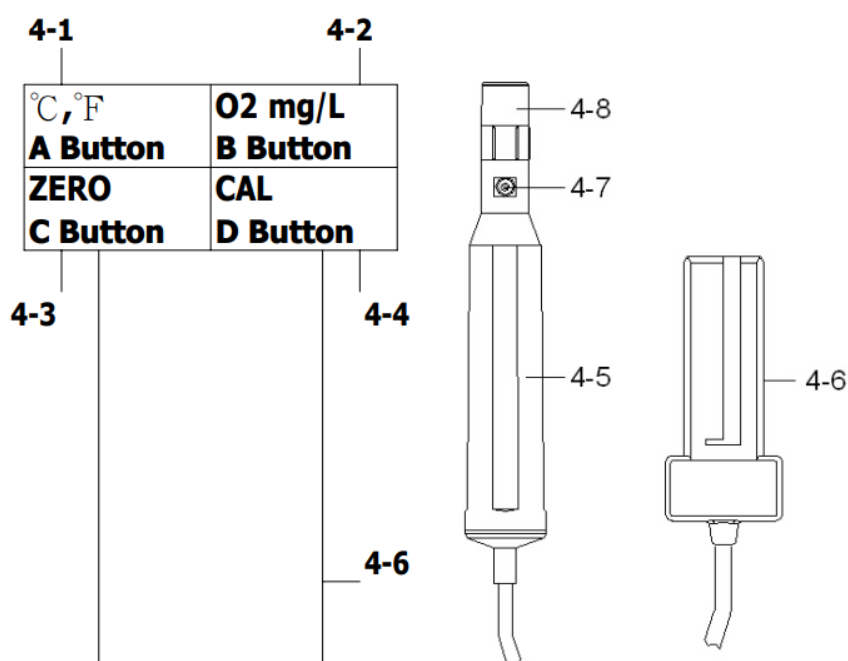

Fig. 1
1. Connect the " OXYGEN PROBE plug " (4-6, Fig. 1) into the meter (YK-2001PH).
3. Push the " O2 mg/L Button (B Button) " (4-2, Fig. 1) to select the " % O2 " function, the display will show the symbol of " % O2 "
4. Push the " Zero Button (C Button) " (4-3, Fig. 1) once, the LCD will show zero value then display the " Air Oxygen " value.
* Push the " CAL Button (D Button) " (4-4, Fig. 1) then the display will show the values exact same as 20.9 or 20.8. (As the oxygen in air is 20.9 % typically, so use this data for quick & precise calibration).
1. After the meter be calibrated (above procedure 5-1), now the meter is ready for Dissolved Oxygen (DO) measurement.
2. Push the " O2 mg/L Button (B Button) " (4-2, Fig. 1) to select the " DO " function, the display will show the symbol of " mg/L " .
2. Push the " O2 mg/L Button (B Button) " (4-2, Fig. 1) to select the " % O2 " function, the display will show the symbol of " % O2 "
Push the " / Button " (4-1, Fig. 1) once will change °C °F the temperature display unit from " to " °C °F or " to " °F °C 5-5 Other functions (Hold, Memory, RS232...) Other functions, such as Data hold, Memory (max., min.,), RS232 interface, Auto power off, Auto power off disable, please refer the operation manual of YK-2001PH.